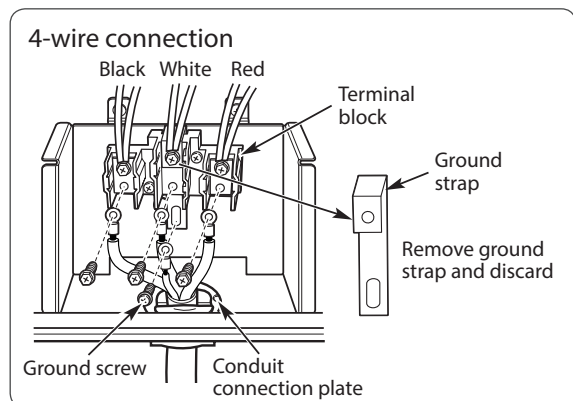

FIGURE 9
1. Remove the lower 3 screws from the terminal block and retain them. (Refer to Figure 9.)
2. **Remove ground strap and discard as shown in Figure 9.**